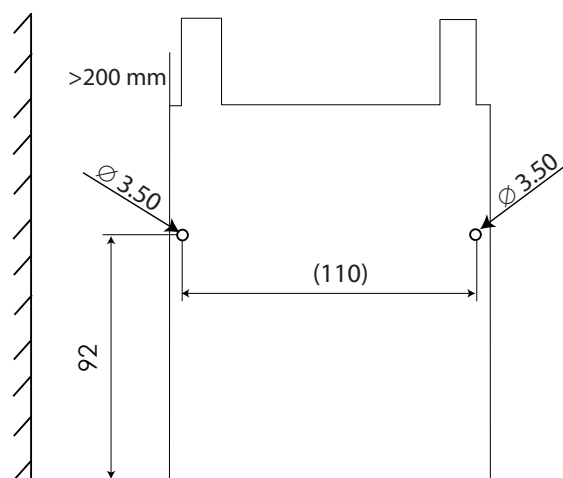

Fig. 1.b
2. fix the fastening bracket using two M4x12 screws supplied (see Fig. 1.c), using a spirit level to make sure installation is horizontal;